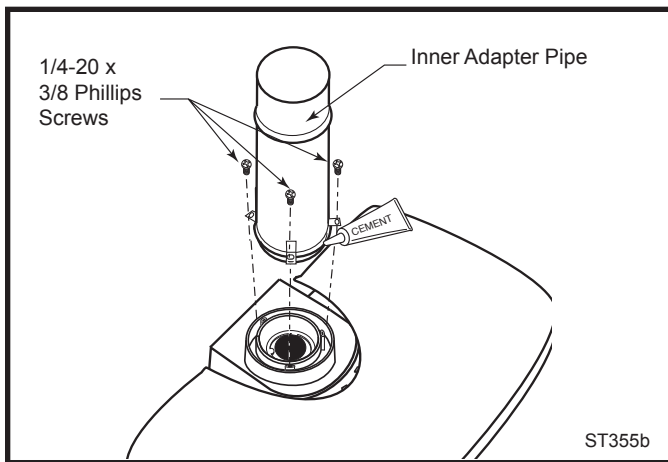

Fig. 21 DuraVent - install inner adapter pipe.
- Run a bead of sealant around the bottom end of the starter pipe and attach the assembly to the stove using three 1/4-20 x 3/8" Phillips screws provided in the parts bag. (Fig. 21)